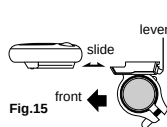

Fig.15
- Slide main unit onto the bracket from front until it clicks into position. To remove, pull it off forward while pushing down the lever. (fig. 15)